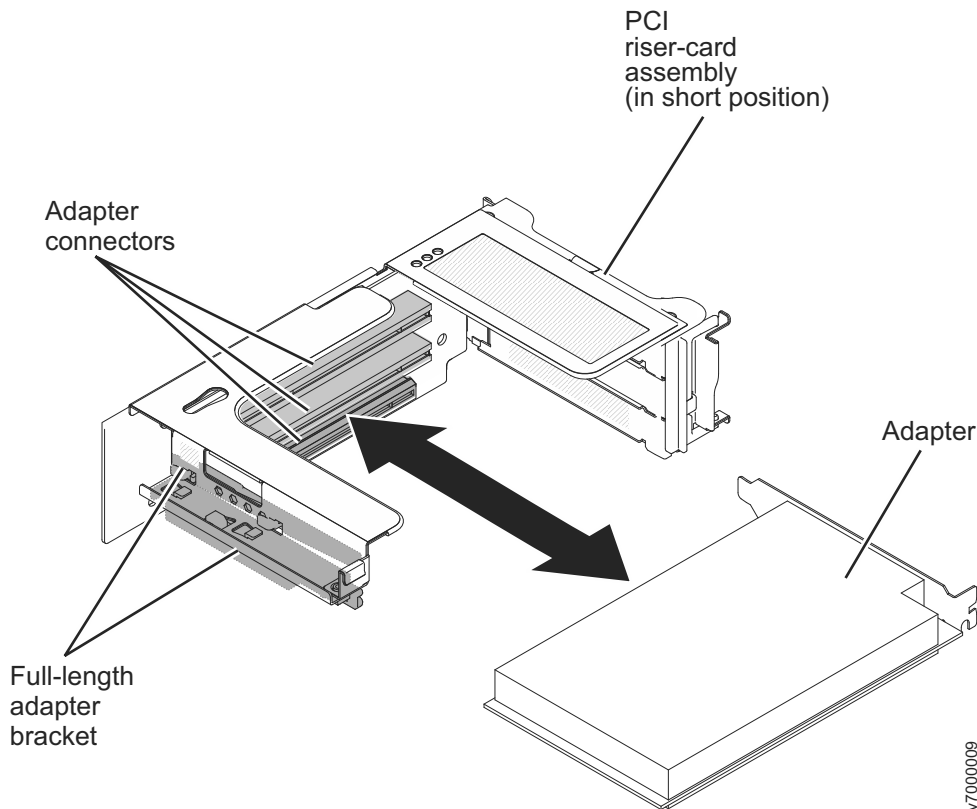

Figure 248. Removing the adapter from the adapter connectors
2. Carefully grasp the adapter by its top edge or upper corners, and pull the adapter from the PCI expansion slot, as shown in Figure 248 on page 296.